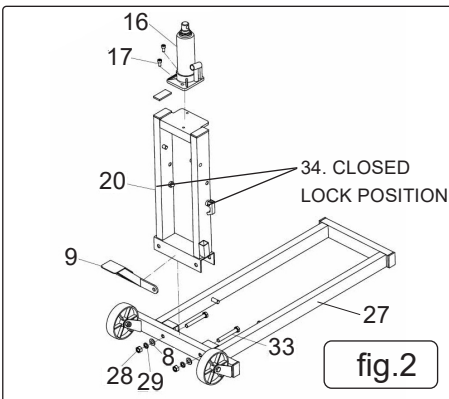

fig.2
- 4.1.1. Place Steel Base Frame (27) flat on a horizontal surface. Place the Upright Frame (Lower) (20) and the Foot Pedal (9) onto the wheeled end of the Steel Base Frame (27) align the bolt holes. (See fig.2).
- 4.1.2. Secure the Upright Frame (Lower) (20) to the Steel Base Frame (27) using Hex Head Bolt (33), Flat Washer (8), Spring Washer (28), and Steel Nut (29). (See fig.2).
- 4.1.3. Place Bottle Jack (16) on the top of upright Frame (Lower) (20) align the holes. Secure in place using Socket Cap Bolt (17). (See fig.2).
- 4.1.6. Attach the Lift Rotating Frame (22) onto Rotating Frame (Upper) (12) to the Upright Frame (Lower) (20). Secure in place using Flat Washer (8) and Small R-Clip (9). (See fig.2 and 4).
- 5.1.11. Place the two safety lock levers, refer to (34) in the closed, locked position to enable the locking mechanism. (See fig.2).